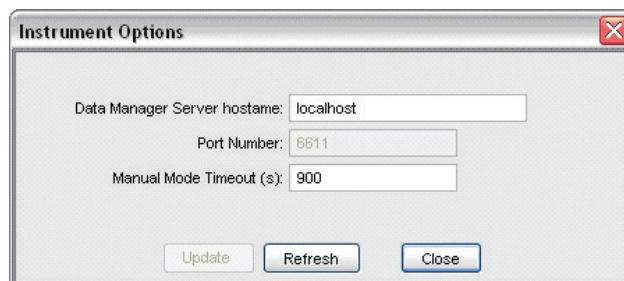

Fig. 35: The Instrument Options dialog box.
1. After connecting to the reader, select **Instrument > Instrument Options** from the menu. The **Instrument Options** dialog box will open (Fig. 35).